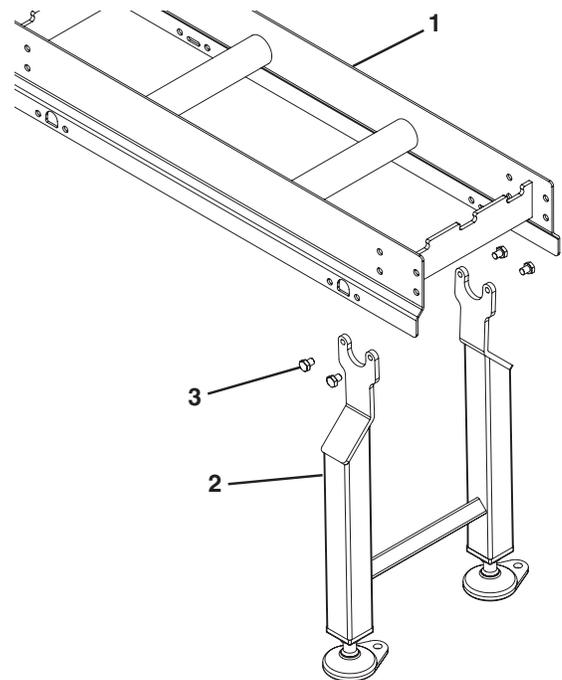

**Figure 9**
4. Attach the flat connectors (**Figure 9, item 1**), if applicable, to the inside of the frame sections.